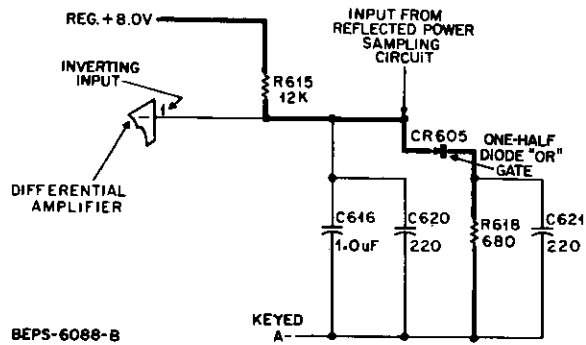

Figure 6. Reference Power Bias Circuit
2.2.4 When the impedances of the antenna circuitry (load) and the power amplifier are matched (a VSWR of 1:1), a bias voltage produced by the dc reference bias circuitry is placed on the inverting input (also called the "reference input") of the differential amplifier (see Figure 6).
Refer to Figure 6. The reference bias is developed (with a 1:1 VSWR) by the voltage divider made up of two resistors and a diode between the regulated supply voltage and the switched A - source. Since A + is applied to the board continuously and A - is only applied when the transmitter is keyed by the push-to-talk switch, the larger capacitor connected between the inverting input and keyed A - provides a time constant which allows the inverting input bias to build up slowly when power is first applied. This prevents full power output from occurring until the leveling circuitry can react and reach a quiescent level.